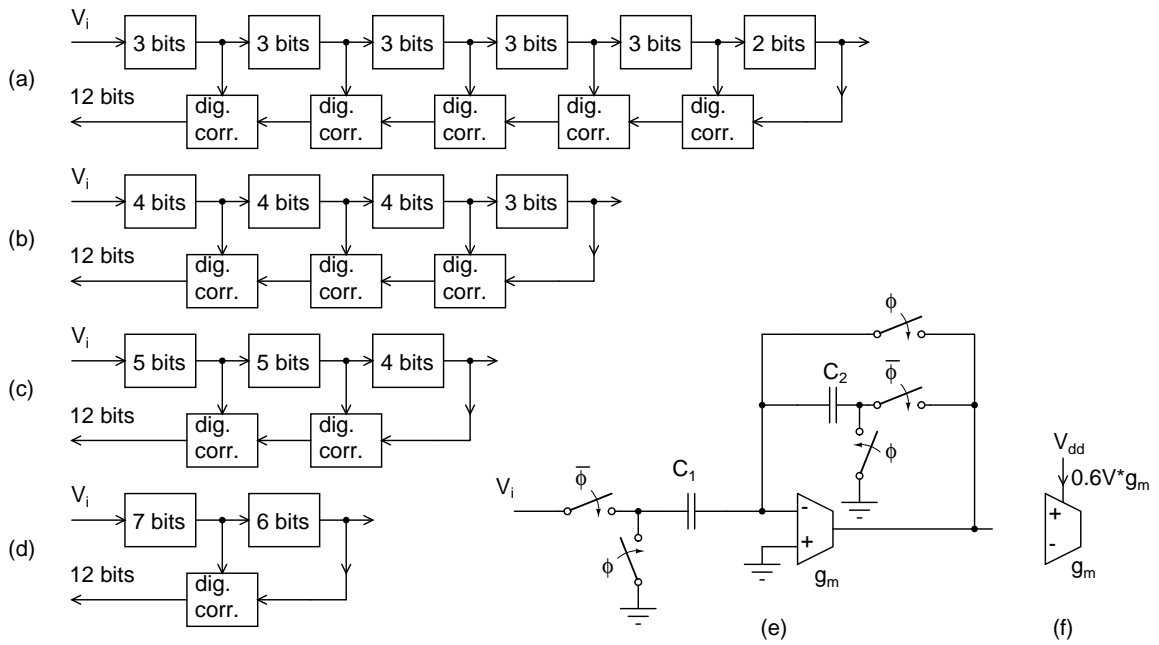

Figure 2:
100 MS/s A/D converters are shown in Fig. 2(a-d). The interstage amplifiers use the topology in Fig. 2(e). They use a single stage opamp, shown in Fig. 2. For each architecture, calculate the following and tabulate the results. V_{ref} is 1 V for all stages.
- (g) Total current consumption in the opamps. Assume that the current required to realize a transconductor g_m is $(g_m \times 0.6 \text{ V})$. (Fig. 2(f))